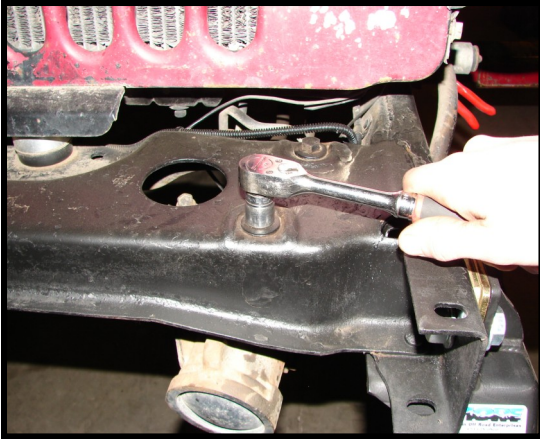

FIGURE 1
STEP 1: If your Jeep® is equipped with a winch, remove it's mounting plate from the side plates. Remove the side plates from the frame. Remove the front bumper. Loosen but do not remove the two top bolts in the front frame crossmember that attach the steering box mounts to the crossmember. See figure 1.